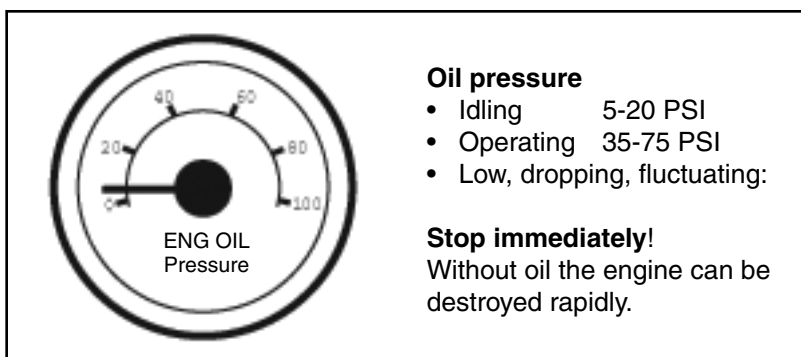

Figure 2.5
- Oil pressure. Should come up to normal within seconds after engine is started. See Figure 2.5.